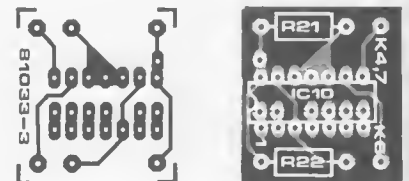

Figure 1. The 'piggy-back' board, which includes the circuit shown in figure 2b, replaces IC10 on the main board.
The scrambler described here literally inverts the speech frequency spectrum. Thus, high frequencies are translated into low frequencies and vice versa. The result is totally unintelligible. The scrambler is shown in the form of a block diagram in figure 1. Since it was designed to distort speech it will only operate within the frequency range of the human voice. The low pass filter is therefore included to eliminate frequencies above 3200 Hz.
Figure 1. The block diagram of the scrambler. The circuit can be used both to scramble and to unscramble speech. The most important component in the diagram is the four-quadrant multiplier. This not only manages to garble speech, it is also able to translate it back into its original, intelligible form.
When an upper storey is built on to a house, it is a good idea to check the foundations and make sure the whole lot won't collapse under the strain . . . Actually, as far as the Junior Computer is concerned, there isn't that much to do (see Table 1) and, in any case, people who feel wary about removing components may rest assured, as they have the choice between changing resistors (for ones with a lower value) or connecting resistors in parallel to the ones already present. Don't forget to modify the wire link at point D! Point D should now be connected to point EX. Readers with the intention of using the Printer Monitor (PM) program, including the step by step reading facility, should include the circuit shown in figure 2b. This is a special module which can be mounted on the main board in the manner indicated in table 2. The module's component overlay and printed circuit board are shown in figure 1. Figure 3 shows how to mount